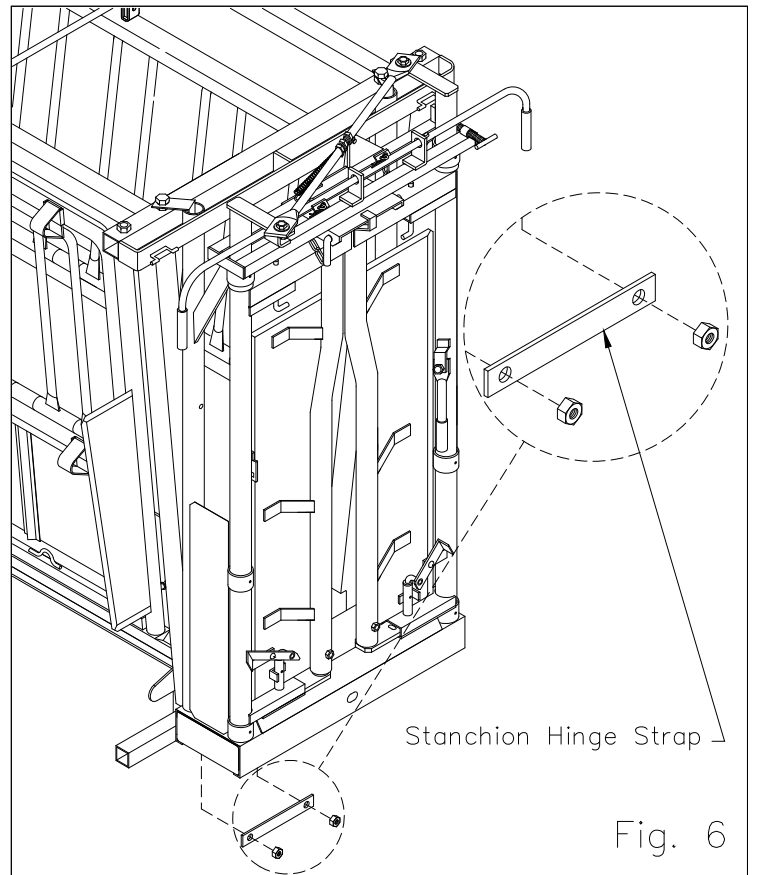

Fig. 6
With the front end of the chute raised off the ground and securely blocked, remove the (2) 5/8" lock nuts and the Stanchion Hinge Strap from underneath the Auto Head Gate as shown in figure 6.